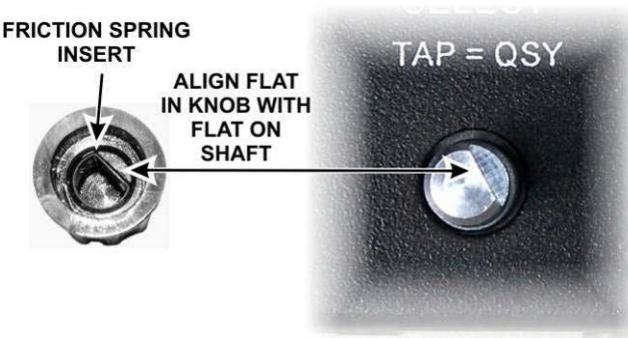

Figure 6. Installing the Knob.
- Check to ensure the knob has its spring insert in place, then press it onto the shaft. Be sure the flat on the shaft is aligned with the flat surface in the knob (see Figure 6). The control has a built-in switch so do not be surprised to hear a click when you press the knob onto the shaft. The knob will stand above the surface of the front panel to allow room for the knob to move when operating the switch. Also, some side-to-side movement of the knob is normal in a control of this type with a built in switch.
Remove the knob to remove the front panel board. The knob is held by friction (see Figure 6 on page 57).